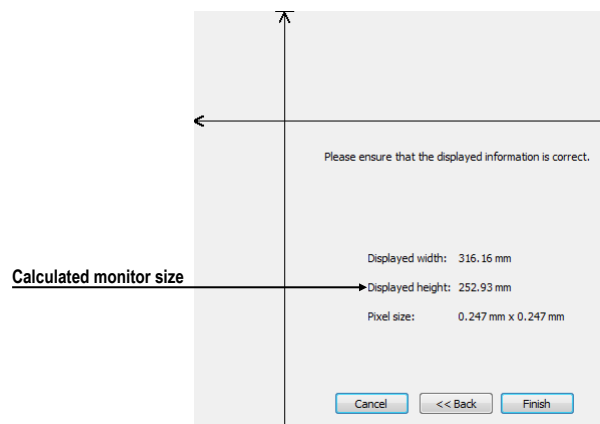

Figure 71 – Monitor calibration verification
5. Verify the calculated calibration size with your actual measuring device (ruler) and push the **Finish** button (see Figure 71).